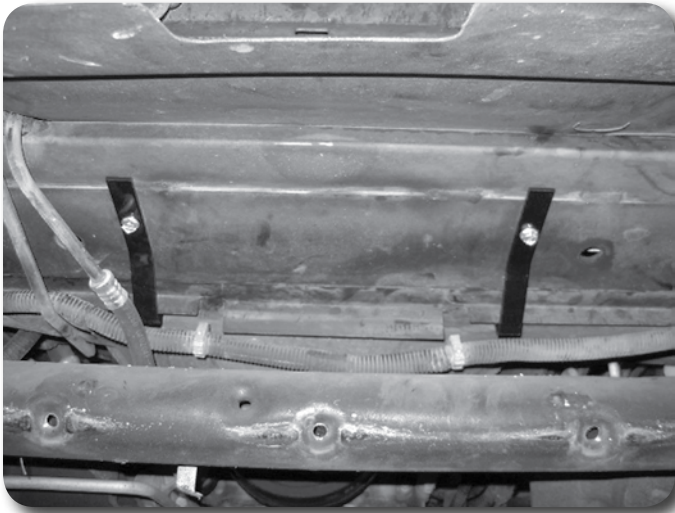

Figure 18
35. With the holes drilled, reposition the lower shroud brackets and fasten with the provided 1/4" x 3/4" self-tapping bolts. Tighten bolts to 10 ft-lbs. **Figure 18**